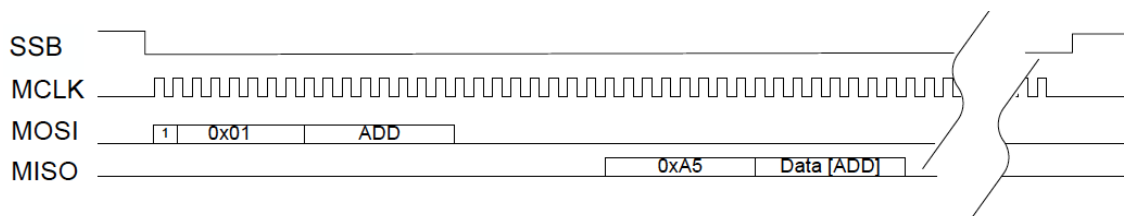
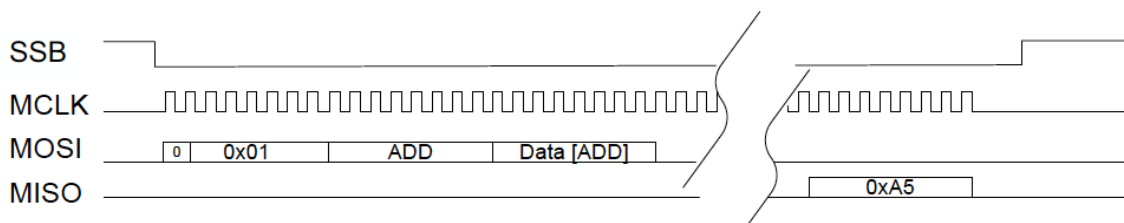

Figure 7: SPI Communication for EEPROM Read Access Timing Diagram
Figure 8: SPI Communication for EEPROM Write Access Timing Diagram
The internal 256 x 8bit EEPROM is a non-volatile memory which holds initialization and calibration data as well as gain dependent settings and the definition of internal measurement sequences. To change the address space from register to EEPROM access, the last bit of the first byte has to be set to '1'. Furthermore, the command word again includes the direction control bit 0 for read and '1' for write access. However, the read and write EEPROM access is somewhat different from the register access detailed before, since read/write operations return a special key (0xA5) via MISO (Figure 7 and Figure 8) to acknowledge the transfer and only single byte transfers per SPI frame are supported (i.e. no sequential read or write access possible).